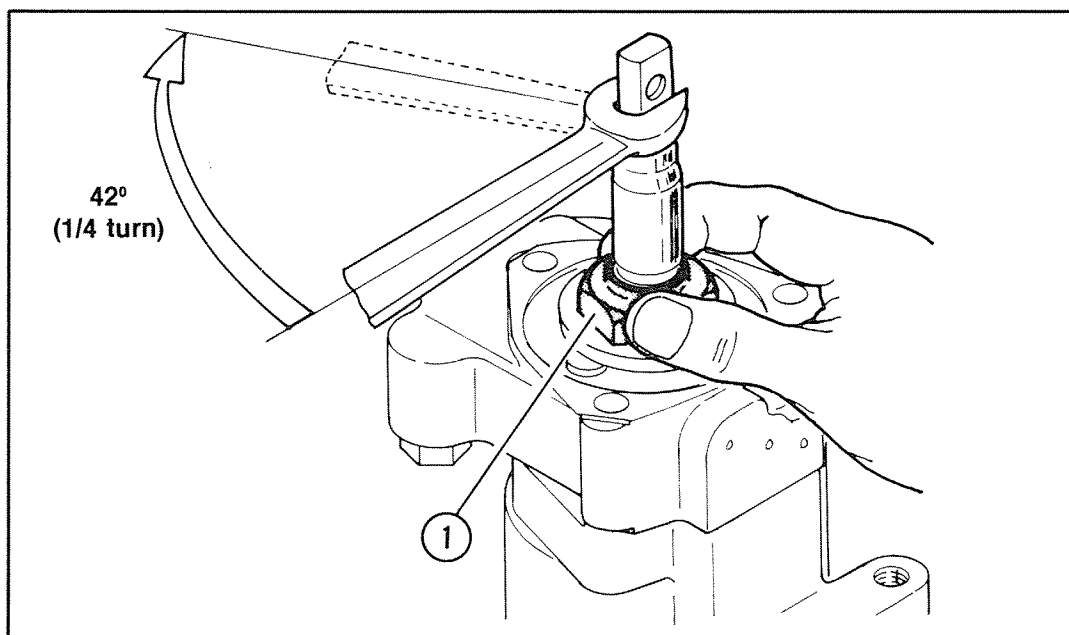

Figure 46
1. Fully turn the shaft counterclockwise with a wrench and tighten the nut. At that time, there should be no end play in shaft. Back off the nut  $1/4$  turn ( $42^\circ$ ), Figure 46.